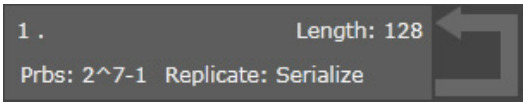

Figure 44 Select Generator block
- g Click in the **Generator** block as shown in Figure 44 on page -92 and repeat this procedure to set up the pattern generator (M1.DataOut1).